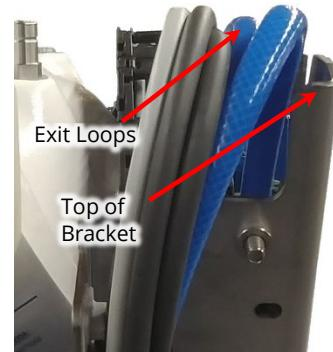

Figure 19: Seakeeper guide band hoses and cables
- VERIFY** exit loops of IGUS chain are at least  $\frac{3}{4}$  in. above back of sheet metal bracket (Fig. 19).